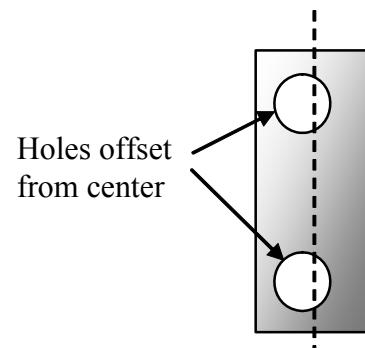

**Figure 6-1**
- Take a moment to familiarize yourself with the RF board using Figure 6-1 to identify the major sections. If you flip the board over you'll see that there are a few components on the bottom of the board, primarily in the transmitter section.
- Turn the board back over to the top side. Install the 28-pin IC socket at U1, near the middle of the board (Figure 6-1). The notched end of the socket should be at the left. Make sure the socket is flat against the PC board before soldering. (U1 itself will be installed in a later step.)